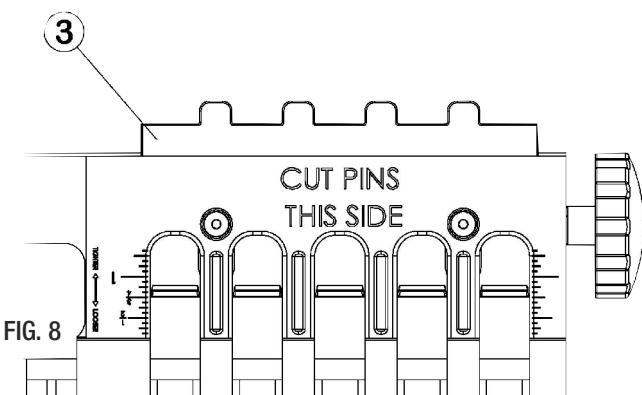

FIG. 8
4. Now that the router is set up, you need to reset the Depth Adjuster Plate ③ for the length of the pins. (FIG. 8) Set the depth gauge for the length of the "PINS". This should be equal to the thickness of the wood used for the "TAILS" board. (FIG. 9)
- Cut a test joint with scrap wood to confirm the fit of the joint. If the boards do not fit together easily, the joint may be too tight. The joint can be made looser or tighter by setting the cutter depth shallower or deeper as shown in FIG. 8.